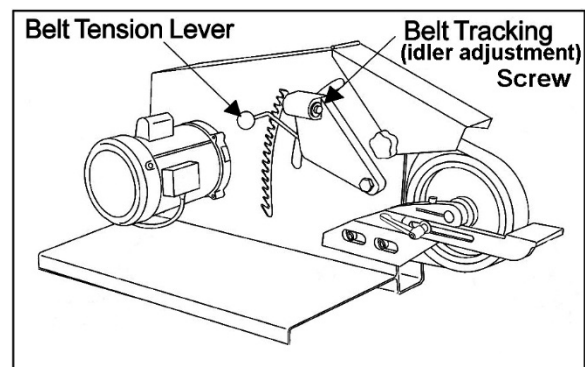

Figure 7-3: Belt tracking screw
3. Use the provided hex key to change alignment of idler wheel. Turn idler adjustment screw (Figure 7-3) clockwise to cause belt to track right. Turn idler screw counterclockwise to cause belt to track left.